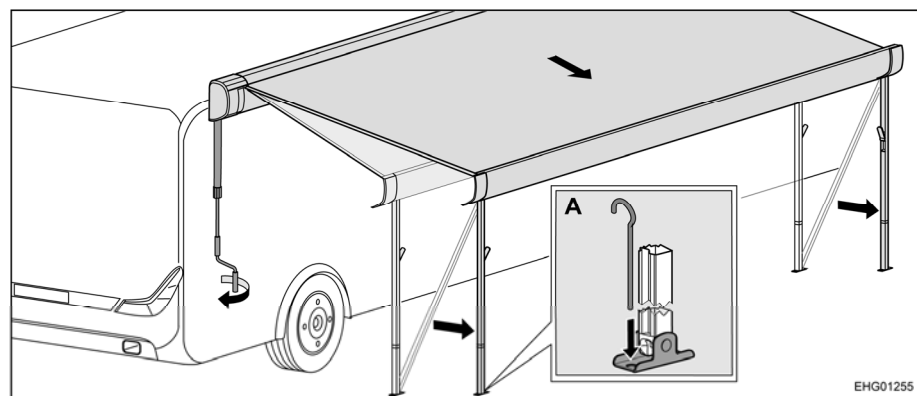

Fig. 51 Bringing awning into end position
- Fix the support legs to the floor with tent pegs (Fig. 51,A).